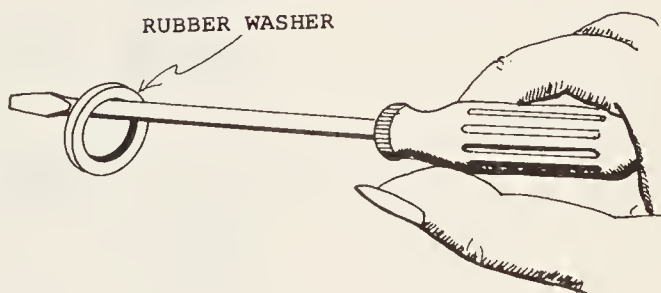

FIG. 7
11. To replace the filter screen, first remove the old rubber washer located in the hose connector and discard it. Stuck washers may be removed by prying them free with the blade of a screwdriver. (*Figure 7*)